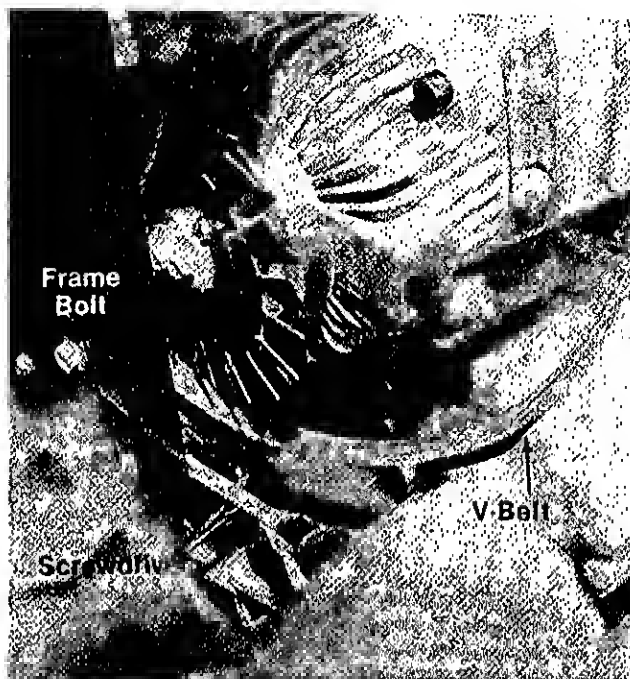

FIGURE 28.
7. Loosen the frame bolt holding the rear axle bracket to the frame. See figure 28.